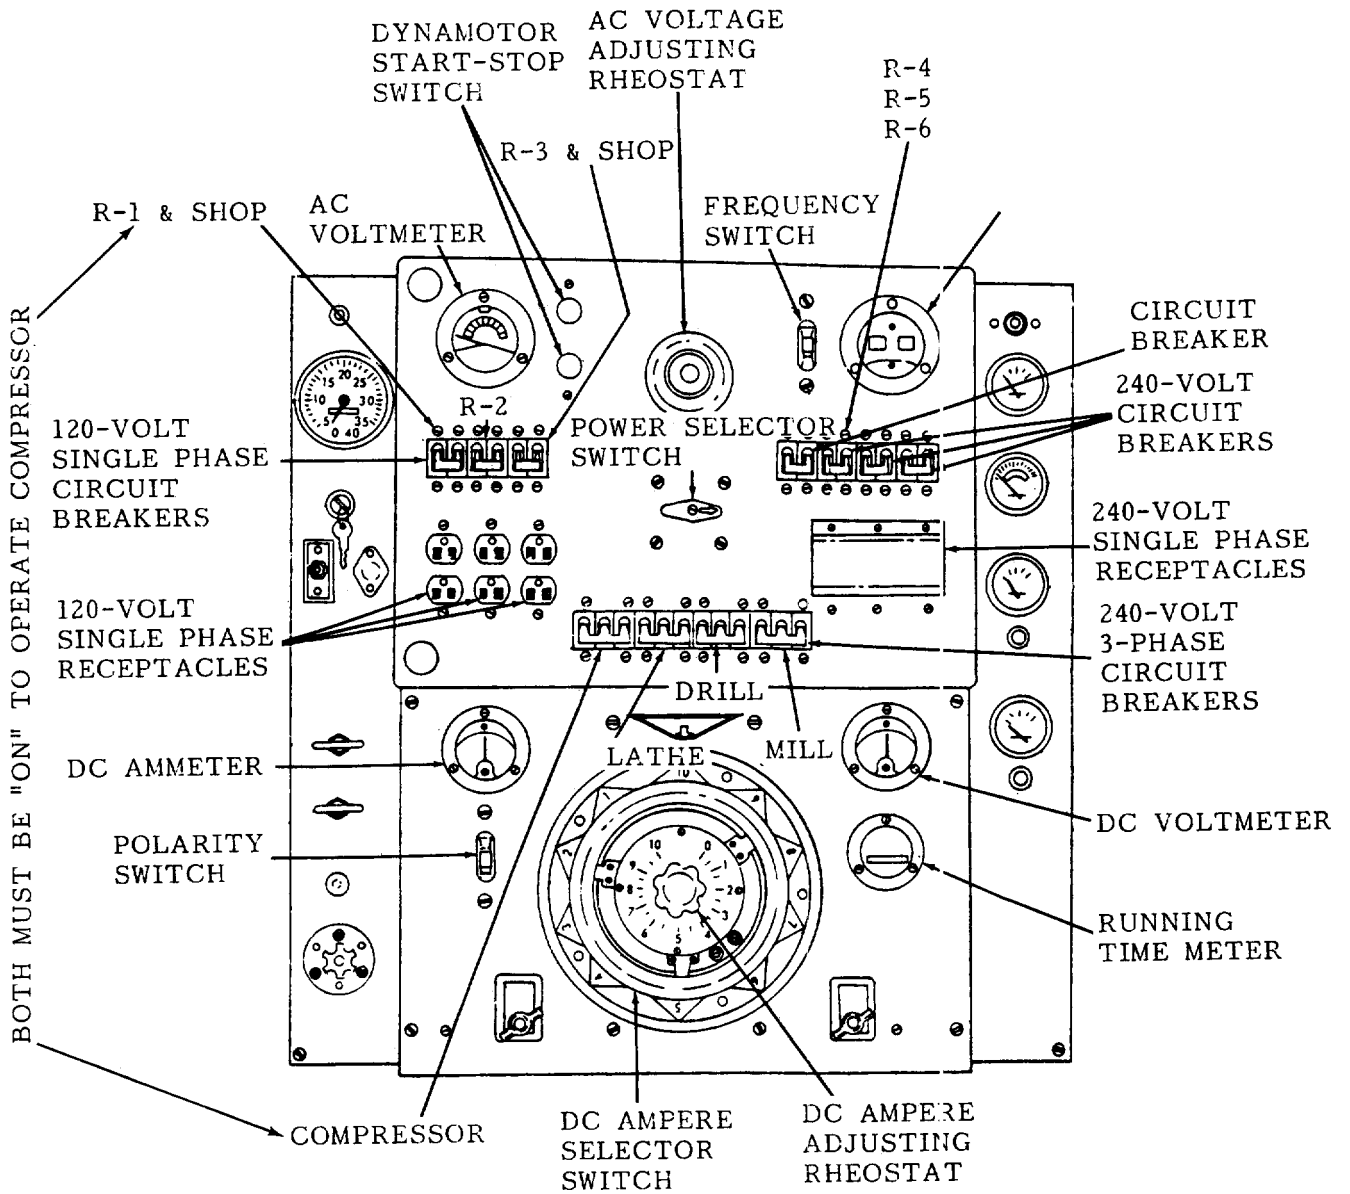

Figure 2-4. Electrical System Control Panel.
- t. AC Voltmeter. The AC voltmeter (fig. 2-4) indicates the AC voltage output of the generator portion of the dynamotor-welder, when the dynamotor-welder is driven by the shop set engine. The output voltage is regulated by the AC voltage adjusting rheostat, and the AC voltmeter indicates the adjusted voltage, which will normally be 240 volts. The same AC voltmeter will indicate only the incoming voltage when an external source of electrical power is used to run the dynamotor-welder; or for the emergency circuits, normally 240 volts for the dynamotor-welder and 120 volts for the emergency circuits.
- u. Dynamotor Start-Stop Switch. This switch (fig. 2-4) is used to start and stop the dynamotor-welder when an external electrical power source is used, and also to close the contractor to provide AC power when the dynamotor-welder is driven by the shop set engine. To operate the switch, press the button momentarily to stop or start.
- v. AC Voltage Adjusting Rheostat. This rheostat (fig. 2-4) regulates only the output AC voltage of the generator portion of the dynamotor-welder, from the minimum to the maximum. Turn handle clockwise to increase and counterclockwise to decrease AC voltage.
- w. Frequency Switch. The frequency switch (fig. 2-4) should be set on 60 hertz if 60 hertz external power is used to run the dynamotor-welder; or, if the engine governor is adjusted so that the shop set engine will run at 1,800 rpm to cause the dynamotor-welder to develop 60 hertz AC current. The switch should be set on 50 hertz if 50 hertz external power is used.
- x. Frequency Meter. The frequency Meter (fig. 2-4) indicates the hertz of incoming power when an external electrical power source is used, and indicates the hertz of output power when the dynamotor-welder is driven by the shop set engine. Normal reading is 60 hertz when the engine is driving the dynamotor-welder at 1, 800 rpm.
- y. 120-volt, Single-Phase Circuit Breakers. The circuit breakers (fig. 2-4 ) protect these circuits against overloading which could be connected to the 120-volt, single-phase receptacles. These circuit breakers are rated at 30 amperes each.
- z. 120-Volt, Single-Phase Receptacles. 120-volt, single-phase power is available at the three receptacles (fig. 2-4) , R1, R2, and R3, when the dynamotor-welder is powered by the shop set engine or by an external power source. Only the R3 receptacle will transmit 120-volt, single-phase power, when using only 120-volt emergency power.
- aa. Power Selector Switch. The power selector switch (fig. 2-4) sets the control panel for the source of power that will be used to run the dynamotor-welder and/or the shop set.
- (1) In GENERATOR position, the dynamotor-welder is driven by the shop set engine. The generator portion of the dynamotor-welder will produce AC current regulated by the AC voltage adjusting rheostat. Power is available at all terminals and receptacles. DC current up to 300 amperes and 32 volts is available for welding.
- (2) In CITY position, an external source of 240-volts AC 3-phase power is connected to the input receptacle. The generator portion of the dynamotor-welder is now used as a 25 H. P. synchronous motor to drive the welder portion. AC power is available at all terminals and receptacles, as well as DC power for welding.
- (3) In EMRGENCY position, an external source of 120-volt AC single-phase power is connected to the shop set. The shop set lights and R3 receptacle on the control panel can be used.
- (4) In OFF position, all AC circuits are de-energized. When the engine is running at 1,800 rpm, the welding studs are energized for normal welding operations.
- ac. 240-Volt Circuit Breakers. These 3 circuit breakers (fig. 2-4) protect the three 240-volt, single-phase receptacle circuits R4, R5, and R6 from overloading in excess of 10 ampere for each receptacle.
- ad. 240-Volt, Single-Phase Receptacles. These receptacles (fig. 2-4) are twist-lock type and will transmit a maximum of 10 amperes of electric current when the generator portion of the dynamotor-welder is driven
- ae. 240-Volt, 3-Phase, Circuit Breakers. These 4 circuit breakers (fig. 2-4) protect the air compressor and lathe electrical circuits from overloading in excess of 30 and 40 amperes, respectively. They also protect the grinding and milling attachment circuits from overloading in excess of 15 amperes each.
- af. DC Ammeter. The ammeter (fig. 2-4) indicates the amperage of DC welding current only when welding is actually being accomplished. The normal reading will vary with the amperage range selected at the DC ampere selector switch and the fine adjustment made at the DC ampere adjusting rheostat.
- ag. Polarity Switch. The polarity switch (fig. 2-4) is used to direct the flow of DC welding amperes from the welding rod to the material (straight polarity) or to direct the flow of amperes from the material to the welding rod (reverse polarity). The switch must be OFF when welding is not being performed to prevent possible damage.
- ah. DC Ampere Selector Switch. The switch (fig. 2-4) is used to select the welding ampere range required for all welding to be accomplished. Amperes lower than 30 are available for special application and up to 300 amperes for general welding. Each welding ampere range shown on the switch shows a minimum and a maximum for the range selected, that should be further adjusted with the DC ampere adjusting rheostat.
- al. DC Ampere Adjusting Rheostat. This rheostat (fig. 2-4 ) regulates the DC welding amperage within the ampere range selected at the DC ampere selector switch. This rheostat may be removed from the control panel and moved to the welding site for remote fine adjustment of DC amperage by using a suitable electrical cable to connect between the rheostat and the receptacle that the rheostat was originally plugged into. Turn the adjusting rheostat' clockwise to increase welding amperage and counterclockwise to decrease amperage.
- (3) Adjust the engine speed to the desired rpm (para. 2-3). The engine should be operated at 1,800 rpm for 60-hertz current.
- (4) Set power selector switch to GENERATOR and the frequency switch to 60 hertz.
- (5) Place the control circuit breaker (fig. 2-4) to ON position, and press the dynamotor start switch, momentarily, to energize the AC generator portion of the dynamotor-welder.
AC output voltage adjustments may be made with the AC voltage adjusting rheostat (fig. 2-4). DC output adjustments may be made with the DC ampere selector switch and DC ampere adjusting rheostat (fig. 2-4).
- d. Operation with Power Selector Switch in OFF Position. To develop DC current for welding, when AC current for operating shop set is not desired, turn the power selector switch (fig. 2-4) OFF. Then, refer to figure 2-6, start the engine and accelerate to 1,800 rpm. The required DC current is now available.
- (1) Refer to paragraph a, and energize the system with internal power; refer to paragraph b, and energize the system with external power, or, refer to paragraph 2-5d.
- (2) Connect electrode and ground cable to dynamotor-welder output terminals (positive electrode and negative ground) .
- (3) Place the polarity switch in the desired position.
- (4) Turn the DC ampere selector switch (fig. 2-4) so that the desired amperes (welding) range is directly under the arrow of the selector switch. The DC ampere fine adjustment rheostat located in the center of the selector switch can now be adjusted to the desired amperes within the range shown at the top of the